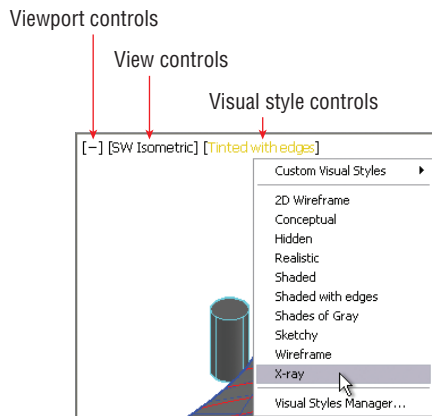

FIGURE 16.6 In-canvas controls
8. You can also change visual styles using the in-canvas controls located in the upper-left corner of the viewport. Select the Visual Style Controls to open a menu (see Figure 16.6).